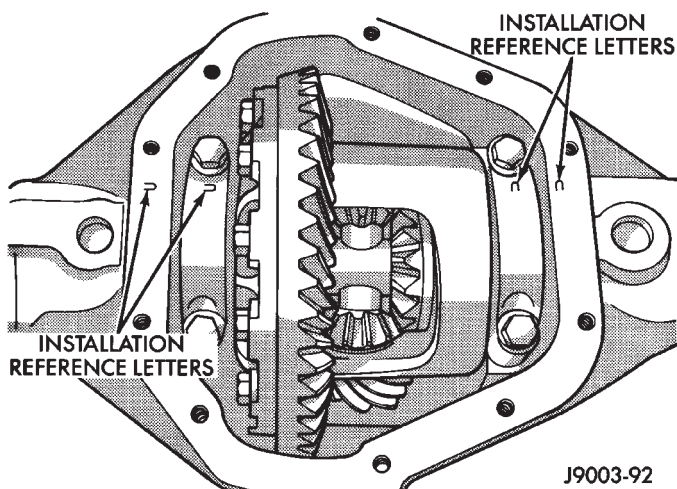

Fig. 18 Differential Bearing Cap Reference Letters
(6) Install the bearing caps at their original locations (Fig. 18). Tighten the bearing cap bolts to 61 N·m (45 ft. lbs.) torque.